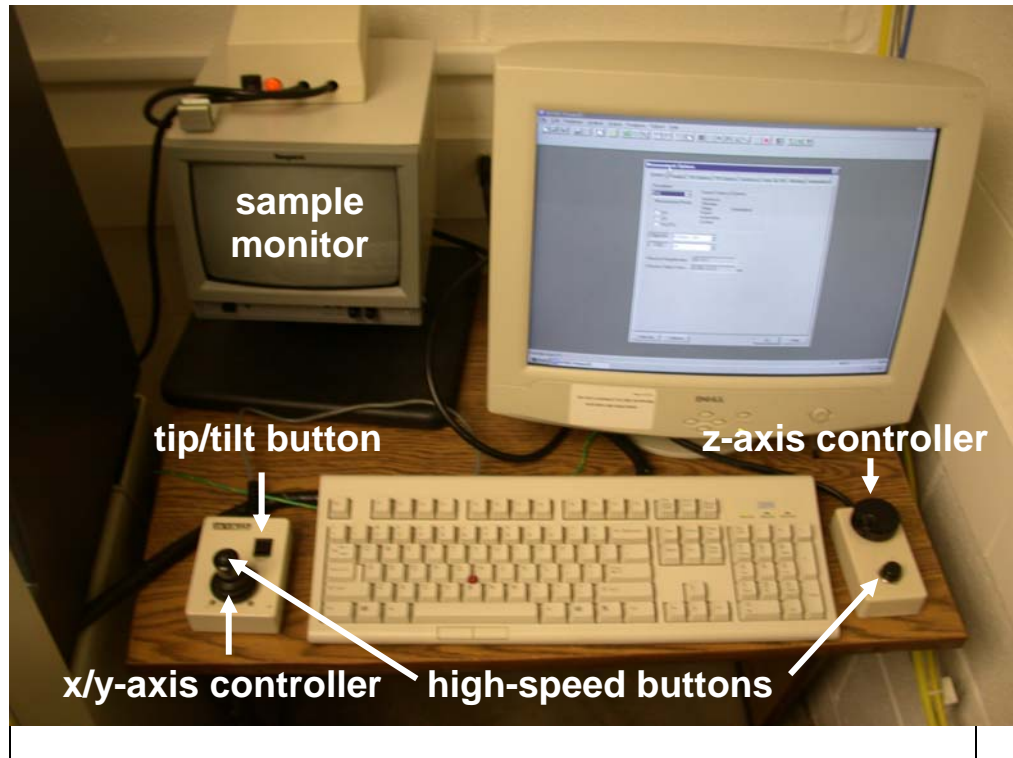

Figure 2 - Wyko Operator Station
- 5.4 The Wyko operator station is shown in Figure 2. The joystick controls the motorized stage (and microscope head for tip/tilt) and the rotating control knob controls the microscope head height (focus).
The computer-controlled stage is controlled with the x/y axis controller shown in Figure 2. Moving the joystick controller will move the stage when the Wyko software is running. Pressing the high-speed button and moving the joystick simultaneously will move the stage faster.